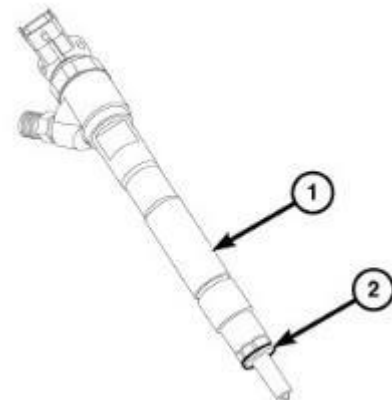

Figure 61 - Fuel Injector
47. Clean the bottom of the fuel injector bore with Brush, Injector Bore 9717 and **make sure the old copper sealing washer (2) is not stuck in the bore** (Figure 61).
53. Install a **NEW** sealing washer (2) onto the fuel injector (1) (Figure 61).